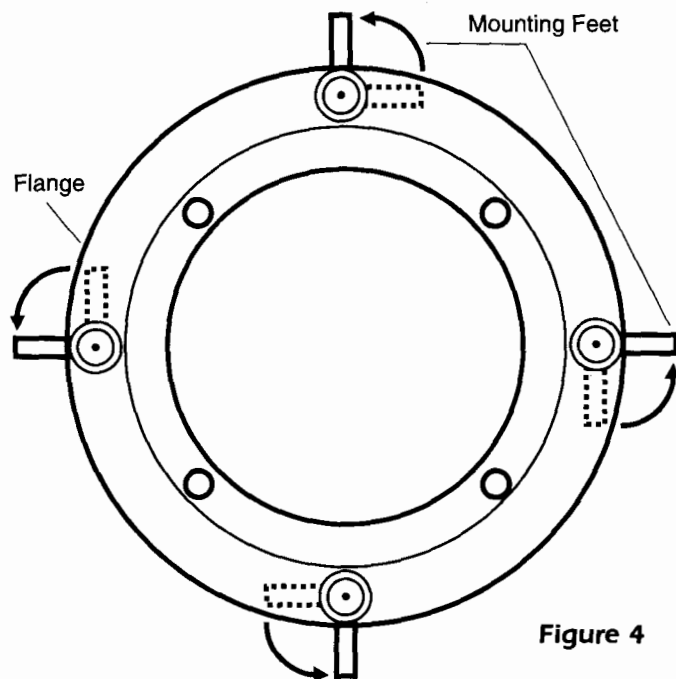

Figure 4
3. Make sure the mounting feet are turned inward to clear the opening, and insert the speaker into the ceiling. Position the speaker into the hole. **Note:** The flange of the speaker is designed to flex and conform to any small imperfections in the ceiling surface. Tighten the 4 screws on the front of the baffle only enough to make the flange become snug against the ceiling. As you tighten the screws, the feet will automatically flip into an outward position (See Figure 4), clamping the drywall between the feet and the flange. **CAUTION:** Over tightening may warp the baffle, crack the ceiling, cause the flange to distort, and make the grille difficult to install.